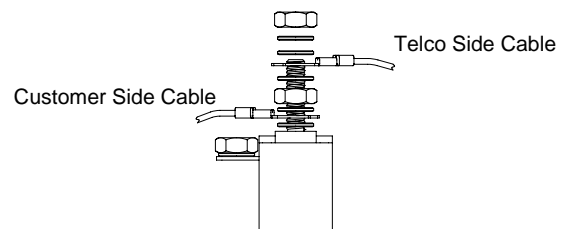

Figure 3
- Terminate one end of the grounding conductor (No. 6 AWG) on the ground stud / binding post and the other end to an appropriate ground source (Figure 3).
- Terminate the Telco Side cable in between the bottom set of washer and bottom nut of the appropriate stud (one conductor to Tip and one to Ring) and tighten down (Figure 3).
- Terminate the Customer Side Cable under the top set of washers and the top nut of the appropriate stud (one conductor to Tip and one to Ring) and tighten down (Figure 3).